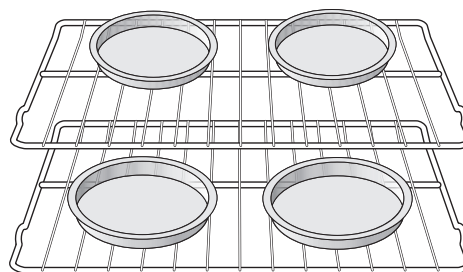

Figure 4: Baking on multiple levels
- For best results when baking cakes or cookies using two oven racks, place pans as shown in Figure 4.